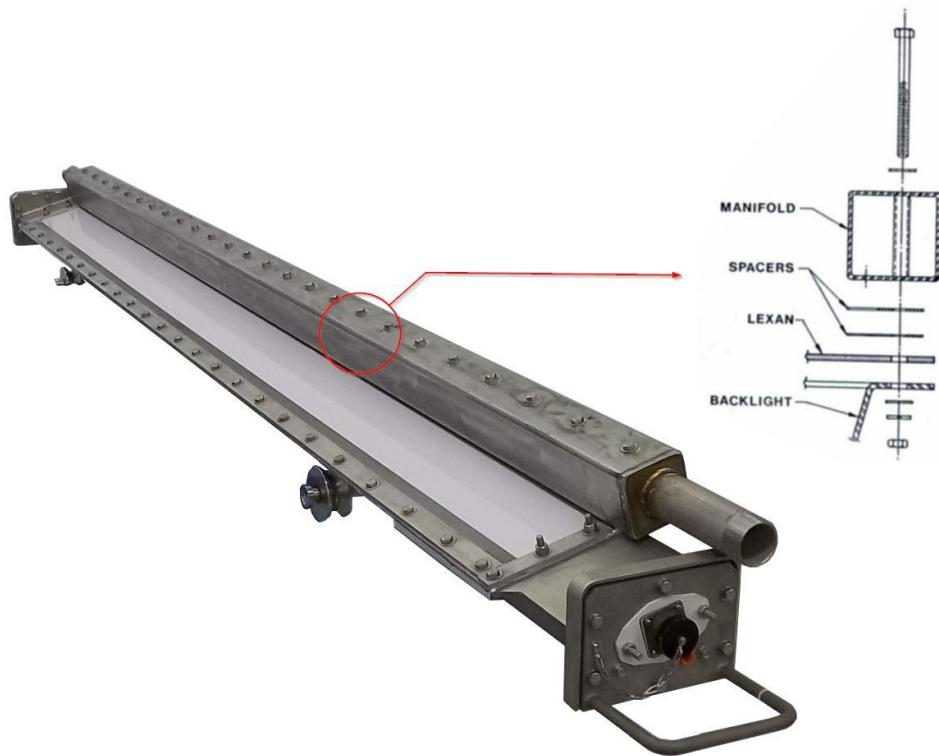

Figure 8.14 Manifold Installation
- 11) This step requires two people. Position the manifold spacer so that its mounting holes align with those on the window. Then lower the manifold on the spacer keeping all three sets of mounting holes - manifold, spacer and window - in alignment (Figure 8.14).